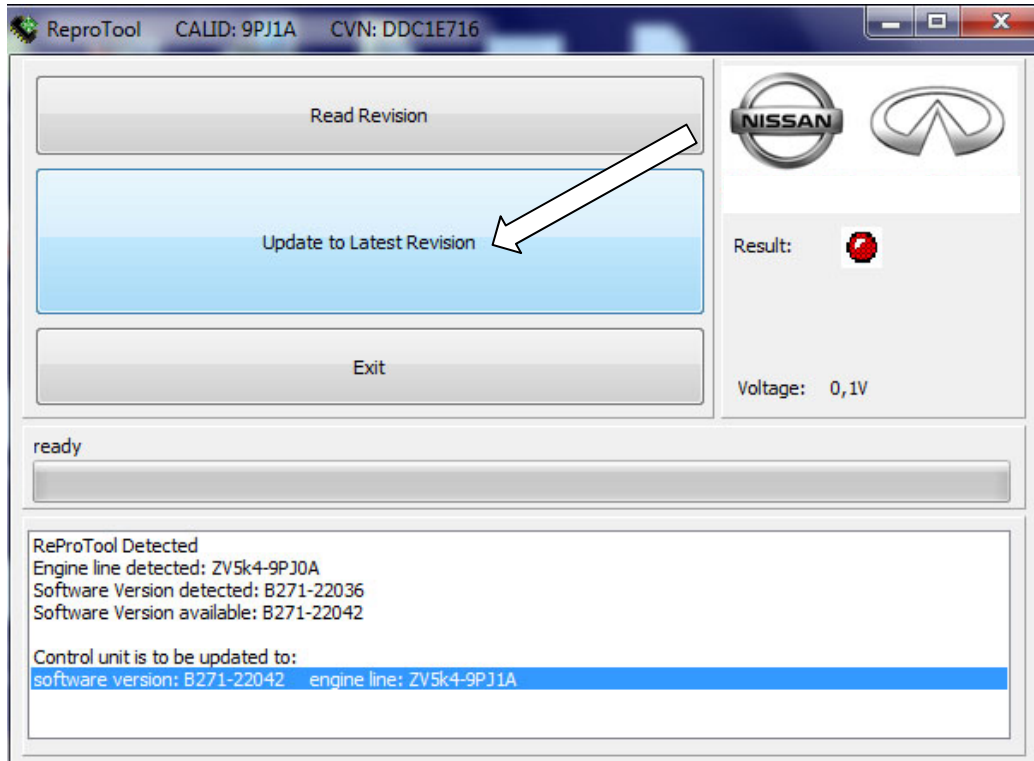

Figure 11
20. Select the “Update to Latest Revision” button as shown in Figure 11.